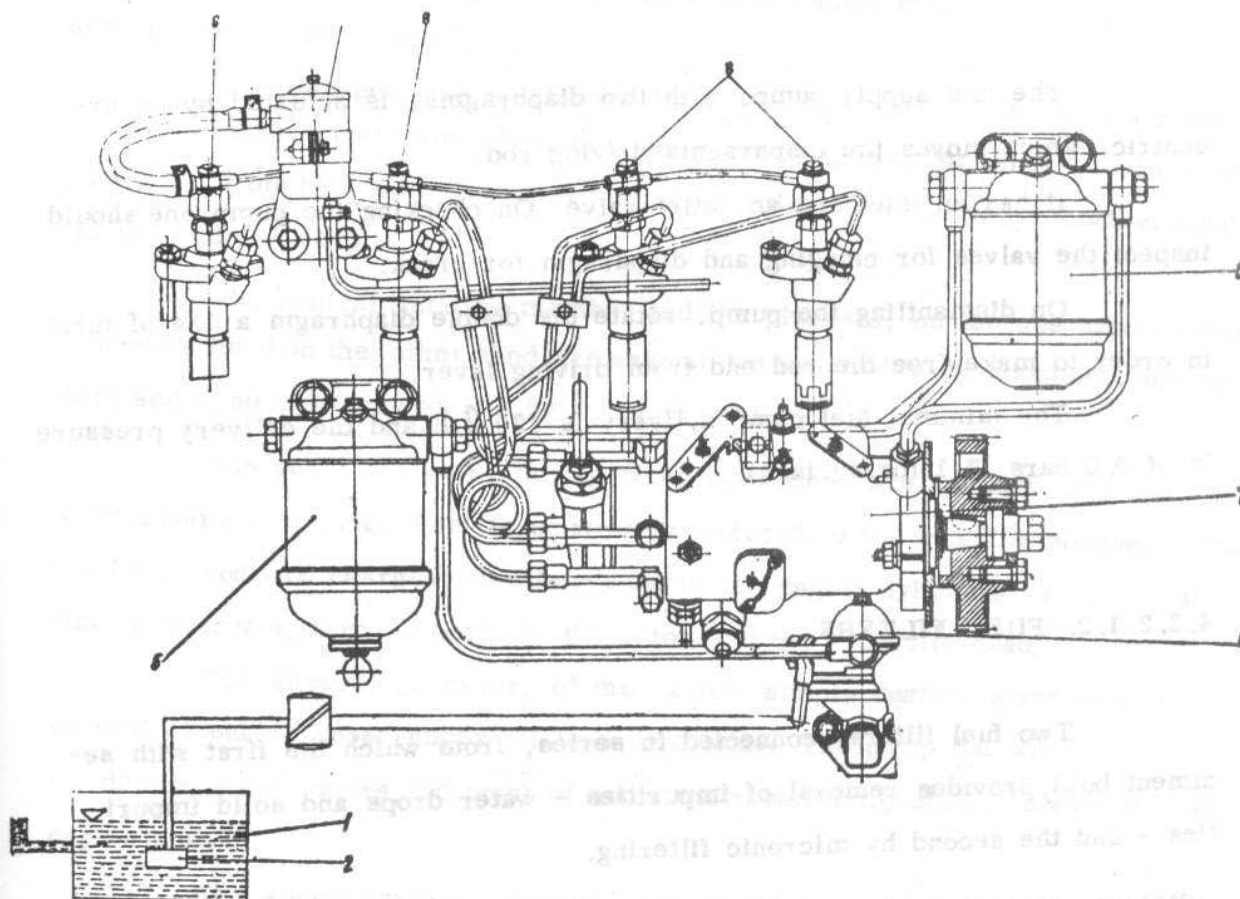

Fig. 4.71. FUEL SUPPLY SYSTEM
- Supplementary tank which collects fuel excess injectors and provides supply of thermoinjector. (see Fig. 4.71).